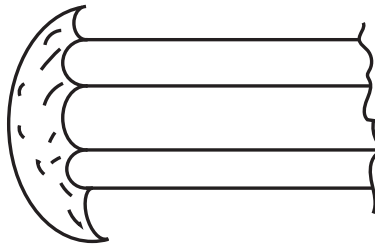

Fig.1
- (c) **Fig. 1** shows a defective flat chisel.